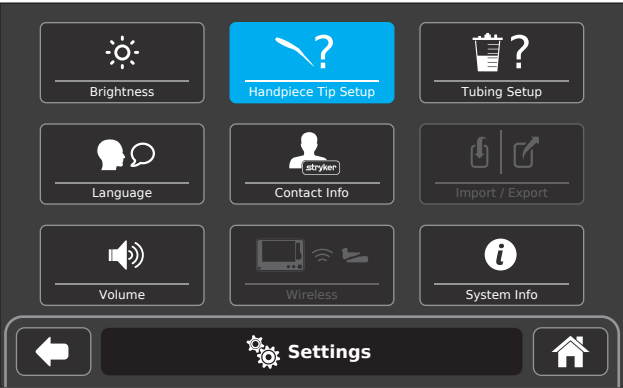

Figure 40 – Handpiece Tip Setup Selection
- 2. From the system SETTINGS screen, touch the HANDPIECE TIP SETUP button (Figure 40).